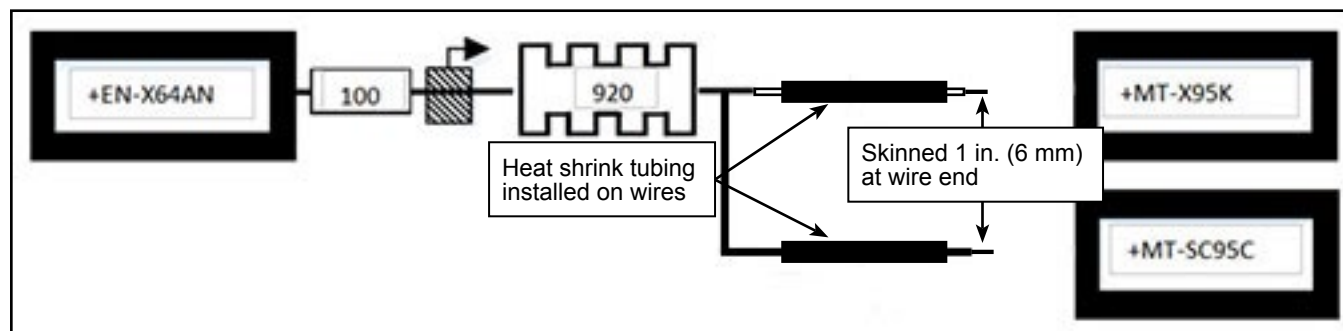

Figure 7 - N632000481 Wire Kit Modification
- 1.13. On the N632000381 wire kit, cut the wire terminals at the extreimities tagged +MT-SC95C and +MT-X95K. See Figure 7.
- 1.14. Skin 1 in. (6 mm) from the end of each wire cut in the previous step. See Figure 7.
- 1.16. Route the new N632000381 wire kit with a loop. Attach it to the metal structure, go under the +MT-X9564A/61A connector and follow the other vehicle wiring up to the +MT-SC95C connector. See Figure 7. Secure the wire kit with G5007996 cable ties.
- 1.19. Route the N632000381 cable's last wire (16 WH) by following the other vehicle wiring up to the +MT-X95K connector. See Figure 7.